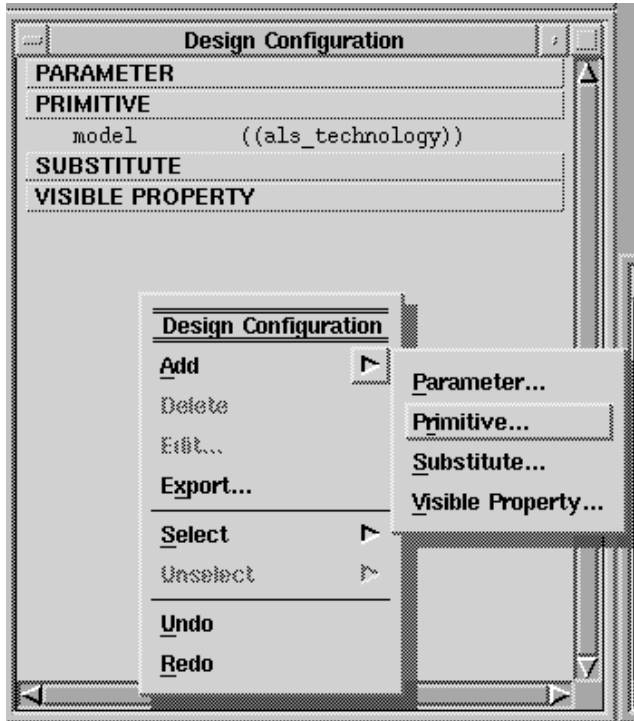

Figure 4-3. Design Configuration Window
5. Make the Design Configuration window active by clicking on its title bar, as shown in Figure 4-3.